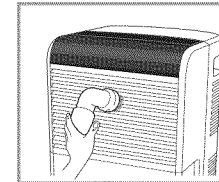

Fig.4
4. Front grill can be cleaned using a vacuum cleaner or a soft brush to remove dust. (Fig.4)